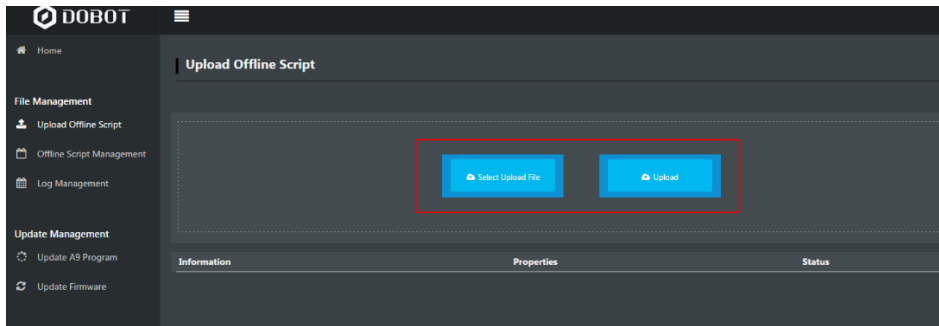

Figure 6.51 Upload script
2. Click **Tools > Web Management > Upload Offline Script** to upload the script to the main controller, as shown in Figure 6.51.